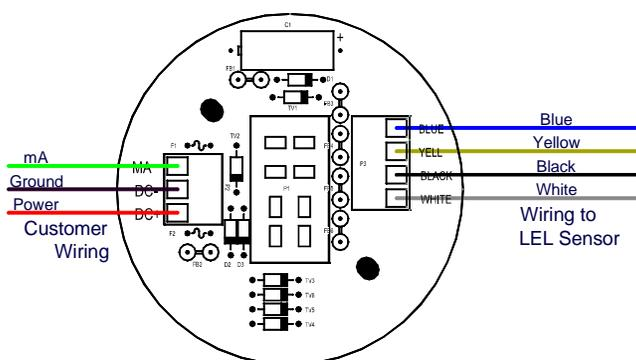

Figure 1 FP-524D Sensor Connector PCB
2. Observing correct polarity, terminate the three-conductor 4-20mA field wiring (DC+, DC-, and MA) to the sensor assembly wiring in accordance with the detail shown in *Figure 1*.